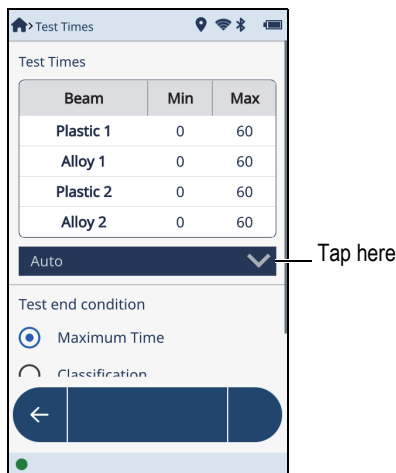

Figure 2-87 RoHS Test Times screen
2. Tap the down arrow to display the force classifications (see Figure 2-87 on page 99).